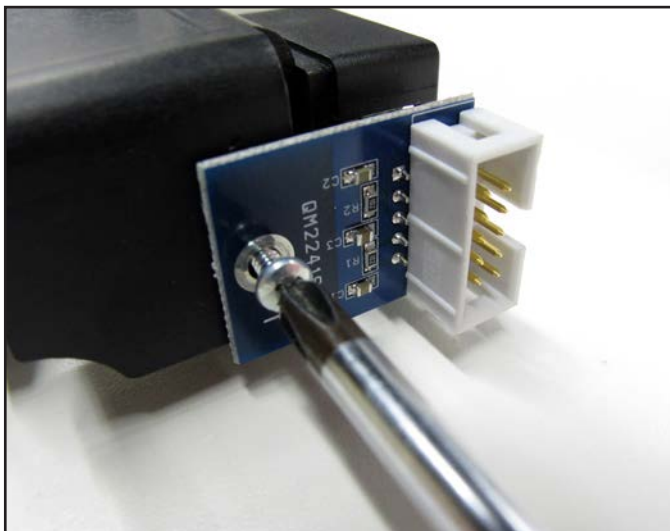

Figure 3.11
2. Remove the Phillips screw that holds the circuit board in place with a small Phillips screwdriver (**Figure 3.11**).